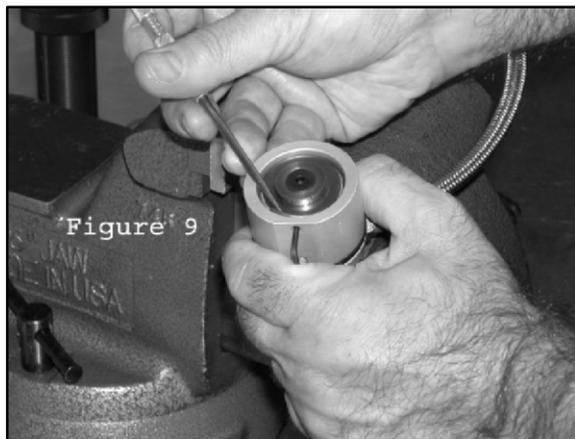

Figure 9
24. Push the end of a 3/32" Hex Key through the small access hole in the side of the CD housing to unseat the wire retaining ring that secures the damp plate assembly. Use a pointed tool such as a scribe or dental pick to remove the retaining ring. Use extreme caution not to scratch the bore of the CD housing. (Fig. 9)